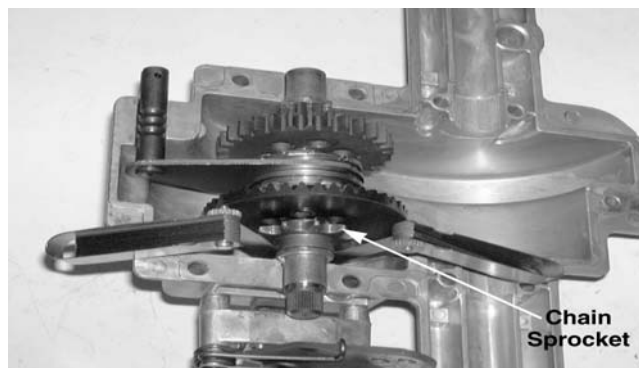

Figure 9-35
- Place two feeler gauges between the chain sprocket and the flat washer shim. See Figure 9-35.